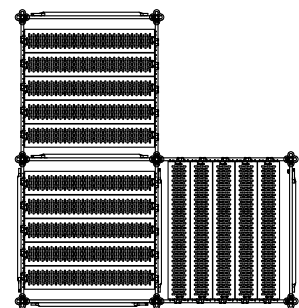

Fig. M.09
- ⇒ Connecting the superstructure with other system components (Fig. M.08) or widening the base (Fig. M.09) to form stable units.